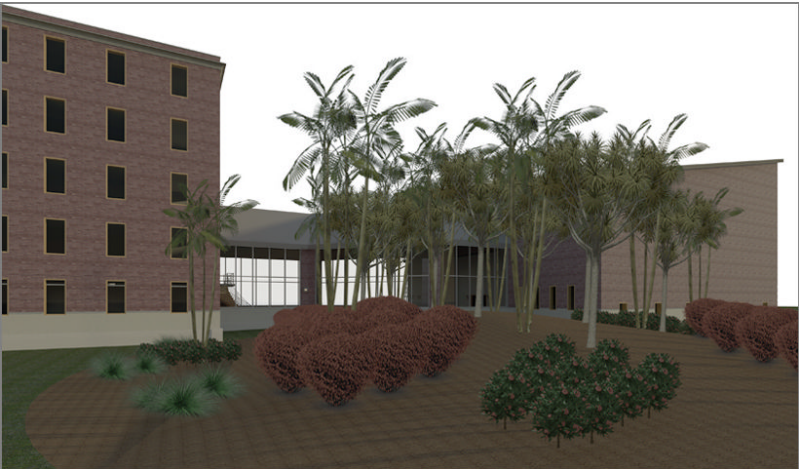

FIGURE 19.6: The 300 dpi rendering
4. Click the Rendering button. After the scene is rendered, it should appear similar to Figure 19.6.